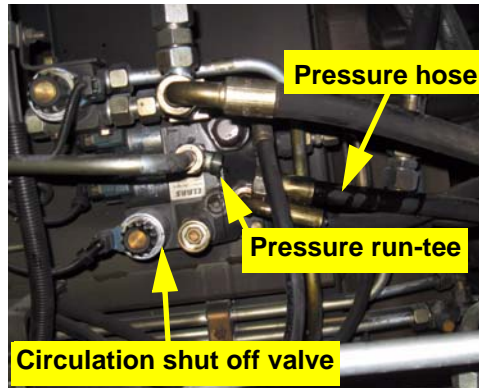

Figure 4a: Tank location
- a. Locate the pressure hose connected to the run-tee at the circulation shut-off valve (Figure 4a).
- b. Disconnect the rubber pressure hose from the run-tee fitting. Attach pressure hose **K** to the disconnected pressure hose and the **P** port on the automated steering block (Figure 4a and 4b).